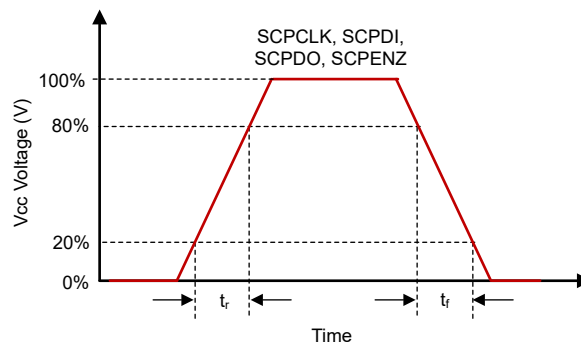

图 6-3. SCP Requirements for Rise and Fall
(1) See Figure 6-3 for Rise Time and Fall Time for SCP.